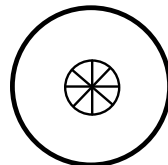

Fig. 2
3. Reform flatten cable end to a round form, and then visually inspect the cable end to ensure that the center conductor is centered within the cable. (Fig. 2)